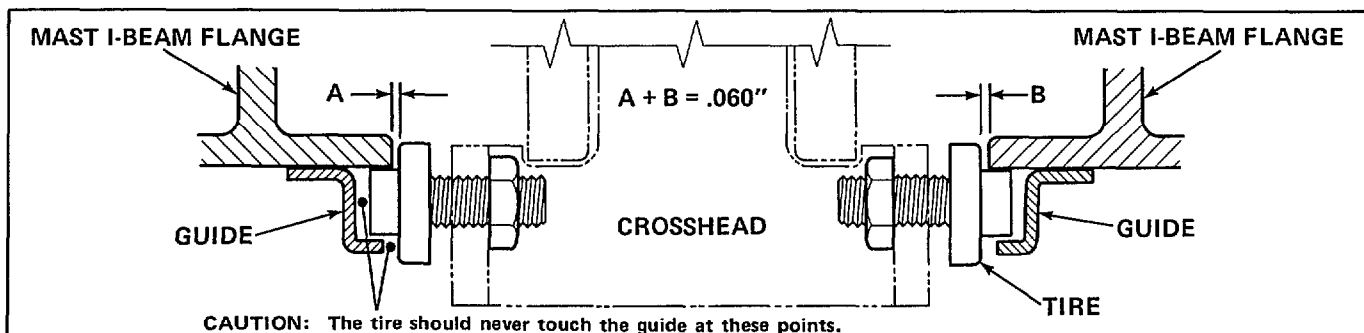

Figure 21. Crosshead Adjustment
The sum total clearance between the tire shoulders and the Mast I-Beam must be .060" as shown in Figure 21. If one tire is touching the I-Beam (which is acceptable) the other tire should have .060" clearance.
1. Loosen the hex locking nut. See Figure 21.
2. Use a hex socket wrench to turn the shaft to attain the clearance shown in Figure 21.